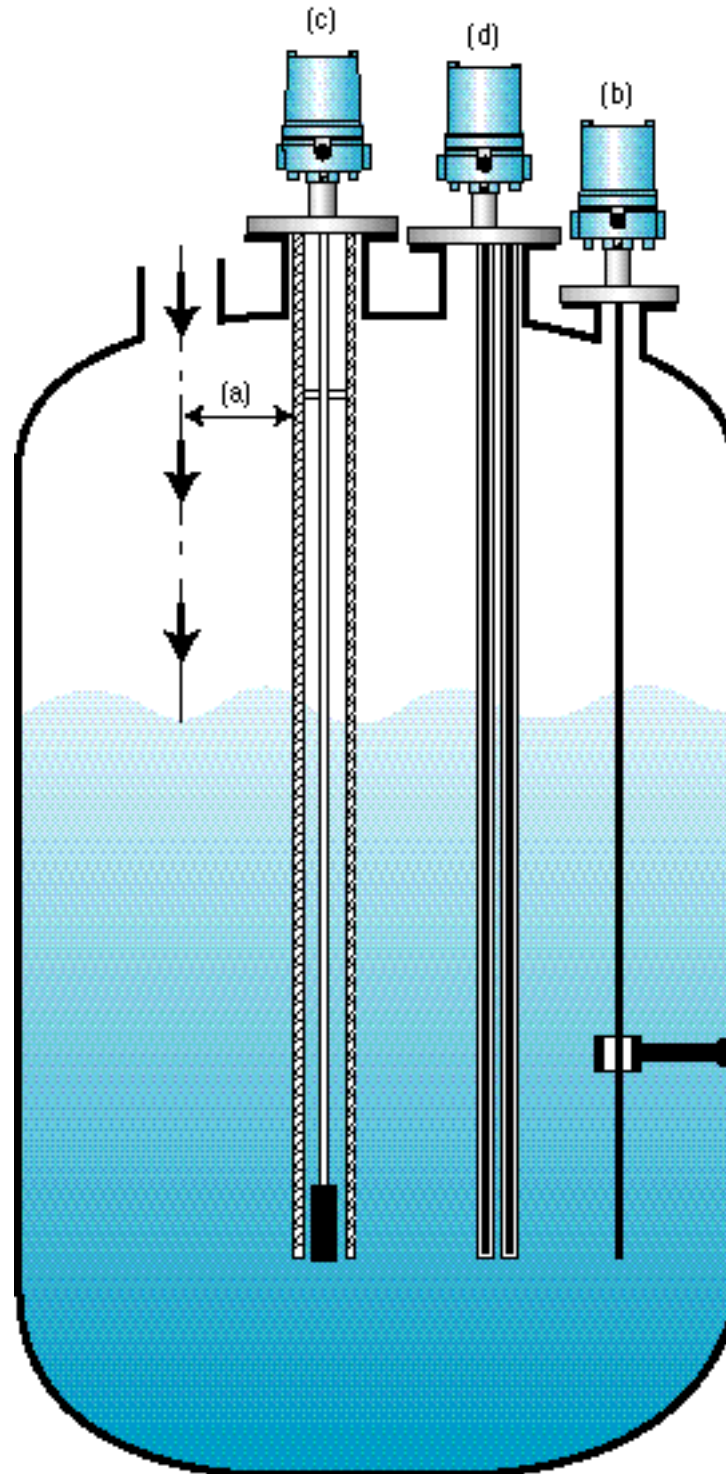

Fig. 3
- * Probe should not be installed at incoming path of material to be measured. Fig. 3-(a)
- * When a long probe is used, a mounting bracket completely insulated with the sensing probe is installed at the bottom of probe. Fig. 3-(b)
- * When the material inside the tank is fluid-like, or tank material is concrete, a probe with a grounding tube (guide tube) should be used. Fig. 3-(c)
- * When tank material is not electrically conductive, and material to be measured is chemical, a double-layer probe should be used. Fig. 3-(d)